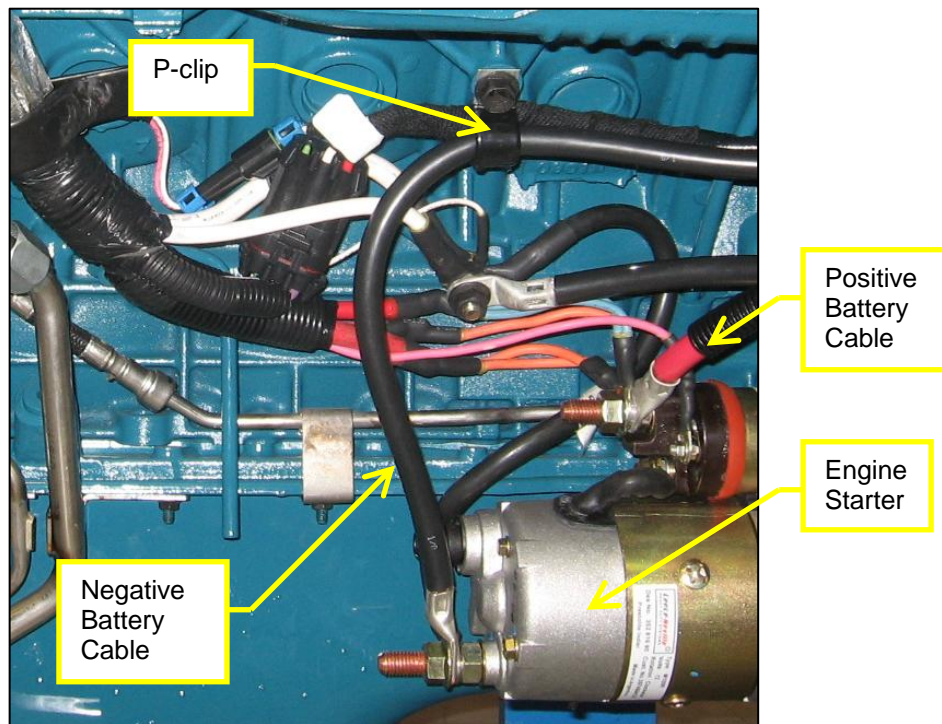

Figure 5.
10. Route the negative battery cable thru the p-clip on the side of the engine as shown in Figure 5.